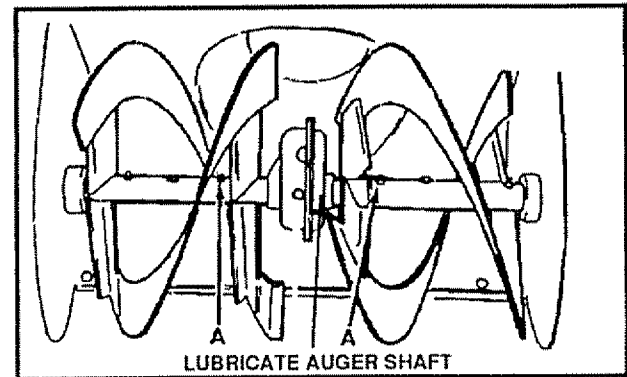

FIG. 16
- Auger Shaft - For storage, lubricate auger shaft (See Fig. 16) with a clinging type grease such as Lubriplate. When replacing shear bolts, remove shear bolts and lubricate auger shaft (see To Replace Shear Bolt paragraph on page 23).